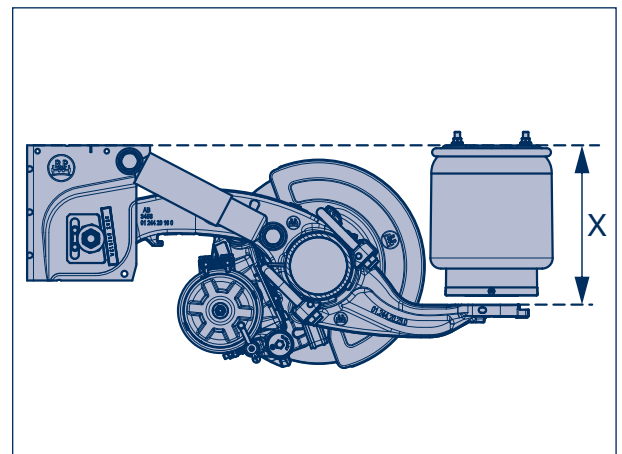

Figure 12
- [19] Measure distance X (Figure 12). This must coincide with the value noted in work step [2]. Tolerance +/- 1 mm.